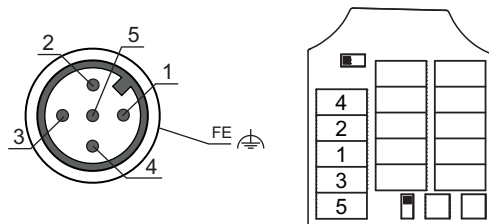

Figure 7.1: PWR / SW IN/OUT connection
If the BPS 304i is the last participant on the PROFIBUS cable, the socket on the MS 304 must be provided with a terminator plug (see table 14.3, Accessories) or the bus termination on the MK 304 must be activated with slide switch T (see figure 7.1).
↪ The bus is terminated via slide switch T in the MK 304 (see figure 7.1).
- ↪ If the current BPS 304i is the last PROFIBUS participant, set slide switch T to ON (see figure 7.1) to activate bus termination.
↳ Terminate the last physical PROFIBUS participant on the MK 304 connection hood with slide switch T (ON position, see figure 7.1).